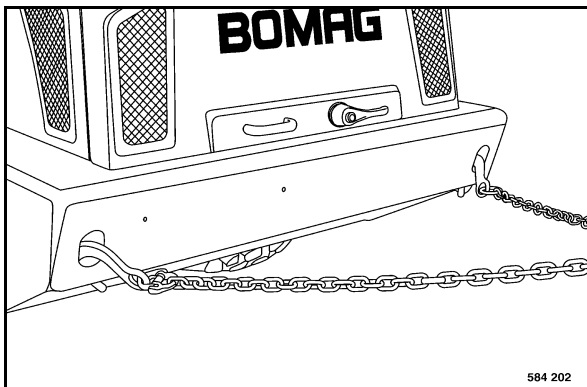

Fig. 108
- Attach chains (Fig. 108) or towing ropes to the lifting hooks.